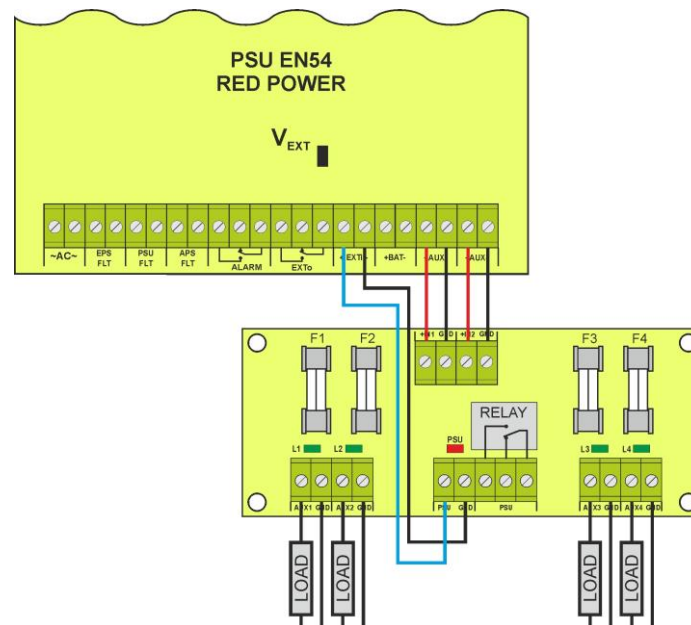

Fig.21. The connection of fuse module.
- switching PSU relay output into voltage free status (contacts as shown in the Fig. 21).